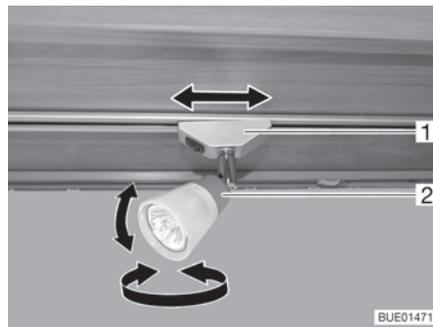

Fig. 34 Spotlight
- Turn housing (Fig. 34,2) of the spotlight to the desired direction. The housing can be turned in following directions:
- Turn holder (Fig. 34,1) through approx. 45°.
- Turn holder (Fig. 34,1) through 90°.